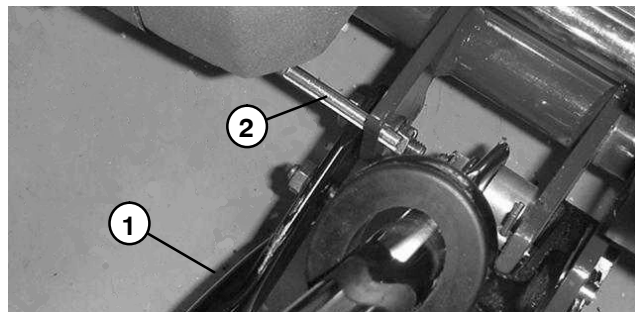

Figure 2
2. Lower kickstand. Insert a 1/4" diameter pin (or equivalent) into frame hole above kickstand mounting bolt to lock kickstand in place (Fig. 2).